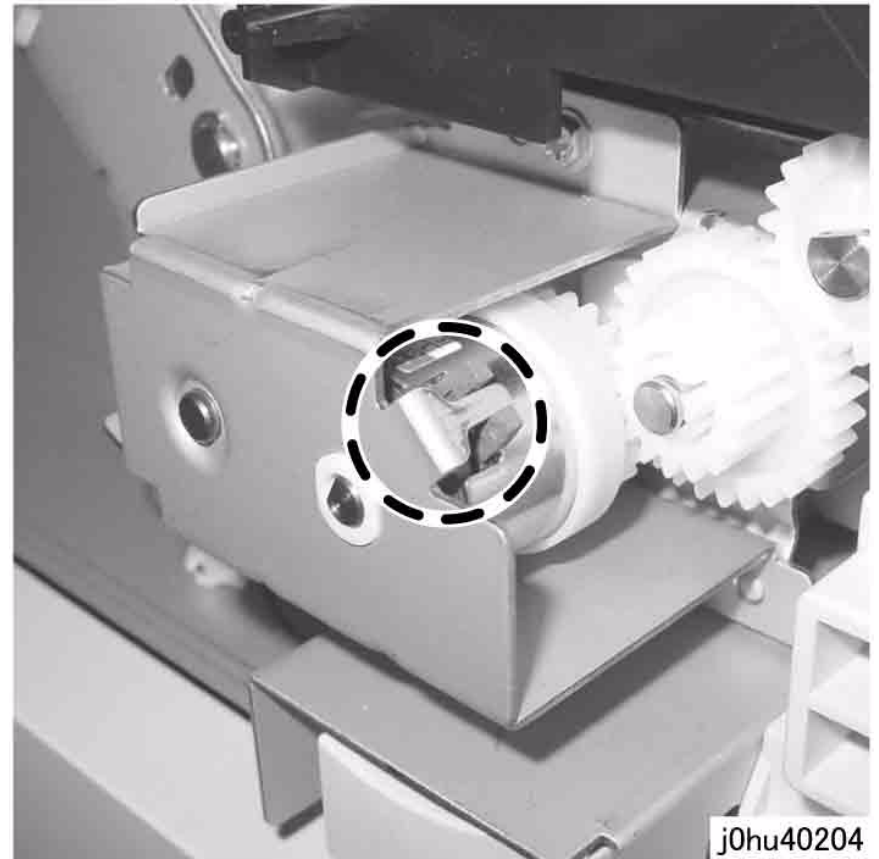

Figure 4 Clutch Bracket Tab Placement
2. When installing the Tray 1 Feed Clutch, place the tab of Clutch Bracket in the notch of Tray 1 Feed Clutch (Figure 4).